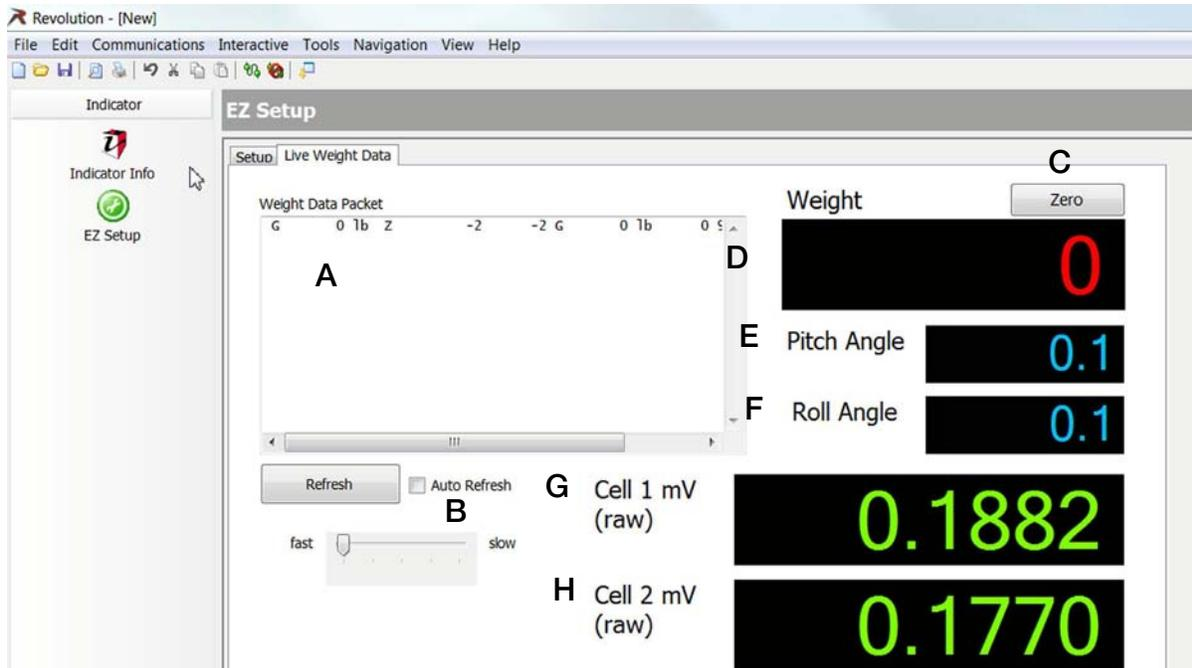

Figure 4-20. Revolution Live Weight Data screen.
1. Select the *Live Weight Data* tab (Fig 4-20).
*Weight Data Packet* screen shows output format of CLS-M. Other displays include Weight, Pitch Angle, Roll Angle, Cell 1 & 2mV. (Fig 4-20). This is the information that will be sent to the customer supplied handheld device when attached through bluetooth.